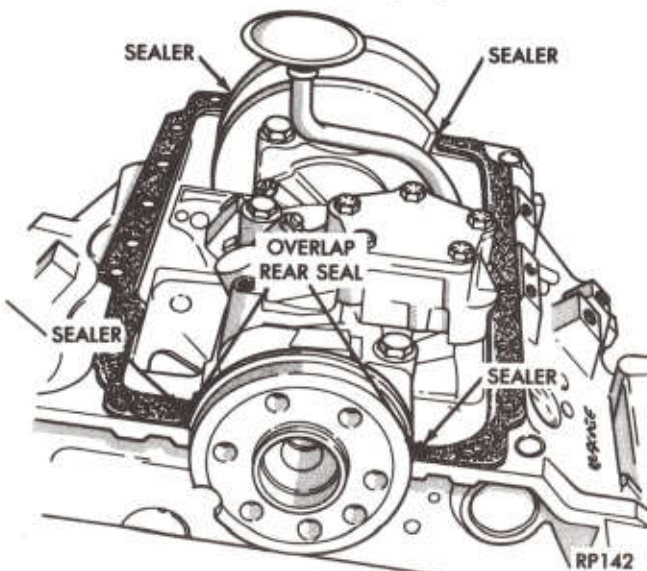

Fig. 54—Oil Pan Gaskets and Seal Installation
- (1) Place a drop of RTV at chain case cover to block parting line.
- (2) Using a new pan gasket set, add drop of RTV sealer at corners of rubber and cork (Fig. 54).
- (3) Install pan and tighten screws to 200 in. lb. (23 N·m).
- (4) Install engine to transmission strut.
- (5) Install exhaust cross over pipe. Tighten to 24 ft. lb. (33 N·m).
- (6) Lower vehicle and install oil dipstick.
- (7) Connect battery ground cable.
- (8) Fill crankcase with oil to proper level.